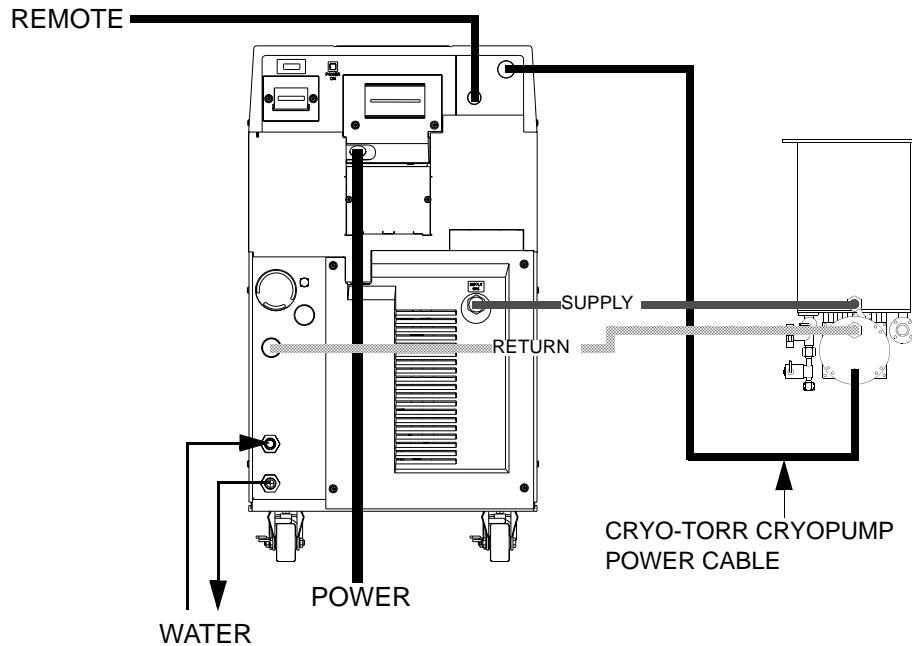

Figure 4-5: Single Cryo-Torr Cryopump Installation
2. Connect one end of the Cryo-Torr power cable to one of the PUMP POWER CONNECTORS on the rear panel of the 9700A Compressor as shown in Figure 4-5.